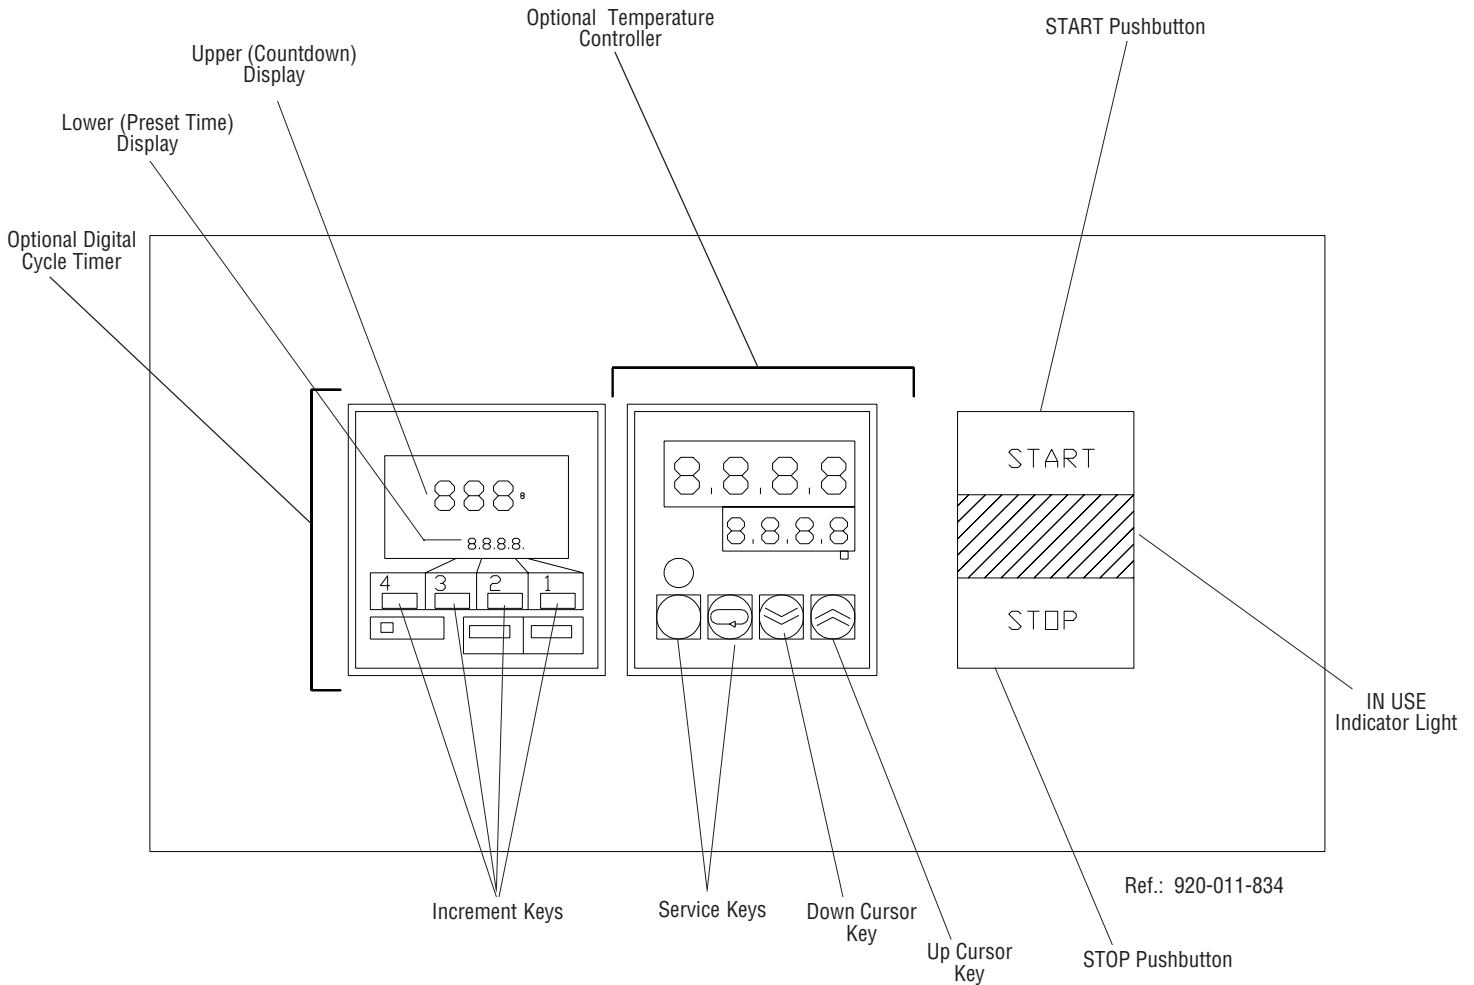

Figure 3-2. Control Panel
If unit is equipped with option, the digital cycle timer is mounted at the far left of the control panel (see Figure 3-2). The upper display counts down the time remaining in the drying cycle, and the lower display indicates the preset cycle time. Cycle time is displayed in hours: minutes (HH:MM) and can be set from 00:00 to 99:59 hours.
If unit is equipped with option, the temperature controller is mounted in the middle of the control panel, next to the START/STOP pushbutton assembly (see Figure 3-2). The upper (Process Value [PV]) display indicates the actual air temperature in the chamber during unit operation, and the lower (Set Value [SV]) display indicates the set drying temperature. Temperature is displayed in °F or °C, depending on factory set-up. Drying temperature can be set from 0°F to 200°F (0°C to 93°C), or from 0°F to 175°F (0°C to 79°C) if unit is equipped with manifold drying option.
NOTE: The two first keys (Service keys) are only used by qualified service technicians when replacing the temperature controller (see Figure 3-2).
3. Press START pushbutton (see Figure 3-2). In Use indicator light glows amber. Dryer operation is continuous until STOP pushbutton is pressed.